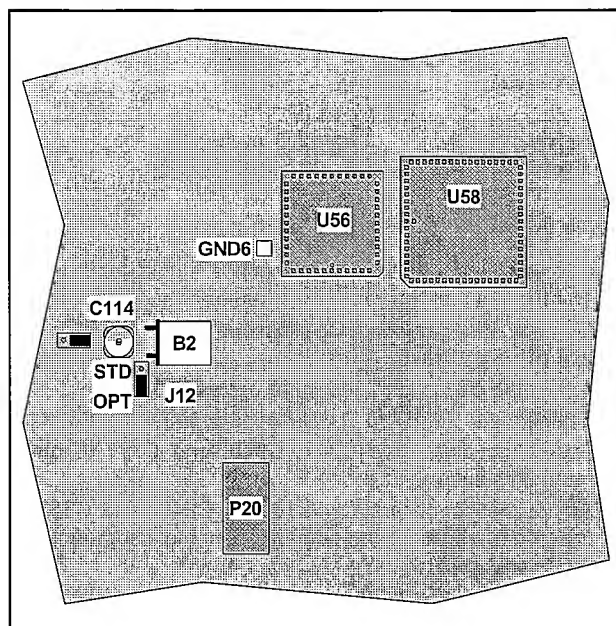

Figure 6-3 Trimmers for the reference oscillator frequency.
- Adjust C114=STD OSC ADJ until the counter reads 10 MHz +2 Hz. See Figure 6-3.